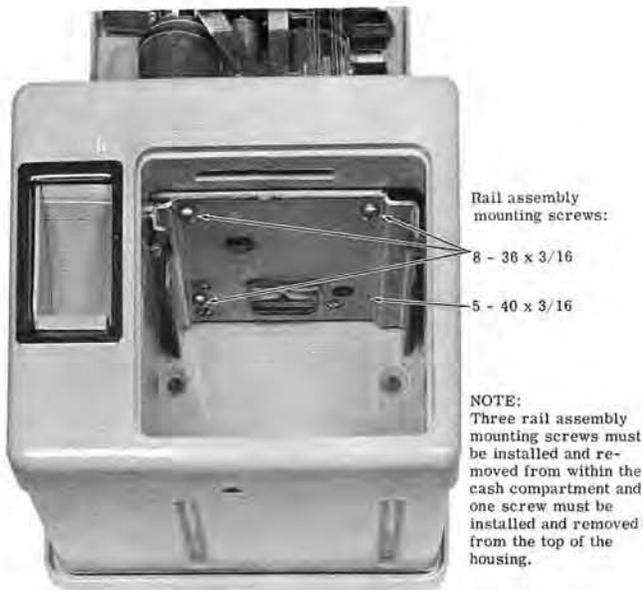

Figure 1.
- (3) Using an offset screwdriver, remove the three screws within the cash compartment that secure the rail assembly to the lower housing (see Fig. 1); remove the fourth rail assembly mounting screw from the top of the lower housing. Remove assembly from cash compartment.
- (8) Place the rail assembly in position (see Fig.1) and install mounting screws. Use an offset screwdriver to install the three screws within the cash compartment; to install screw from top of housing, attach screw to screwdriver as in step (7).
- (9) Replace dust cover and dust cover clip; install cash box; install and lock cash compartment cover and upper housing.